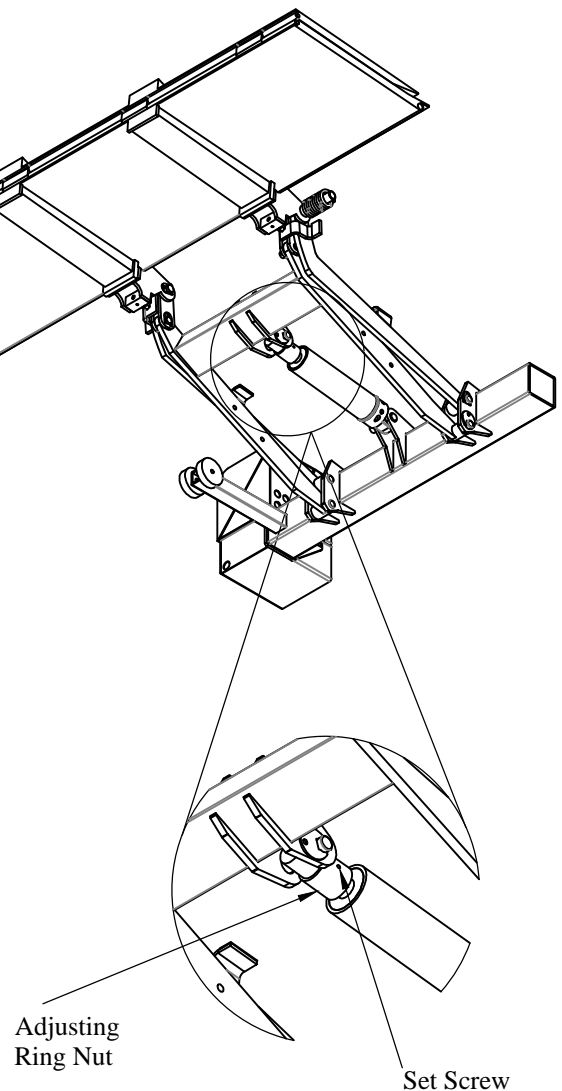

Figure 23: Adjusting Ring Nut.
25. **Lock** the threaded ring nut in place by tightening the set screw (Figure 23).